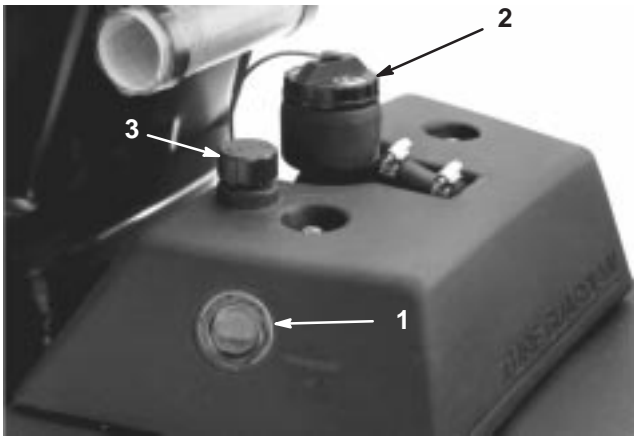

Figure 14
1. Position the machine on a level surface. Make sure that the machine has cooled down so that the oil is cold. Check the oil level by viewing the sight gauge on the side of the auxiliary oil tank (Fig. 14). If the oil level is up to the Full mark next to the gauge, the oil level is sufficient.